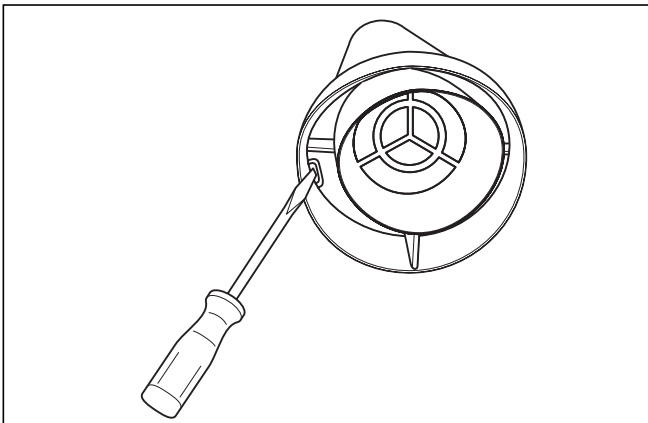

Fig. 2.25 Releasing the catches
- Use an 8 mm screwdriver to bend the catches inwards (fig. 2.25).